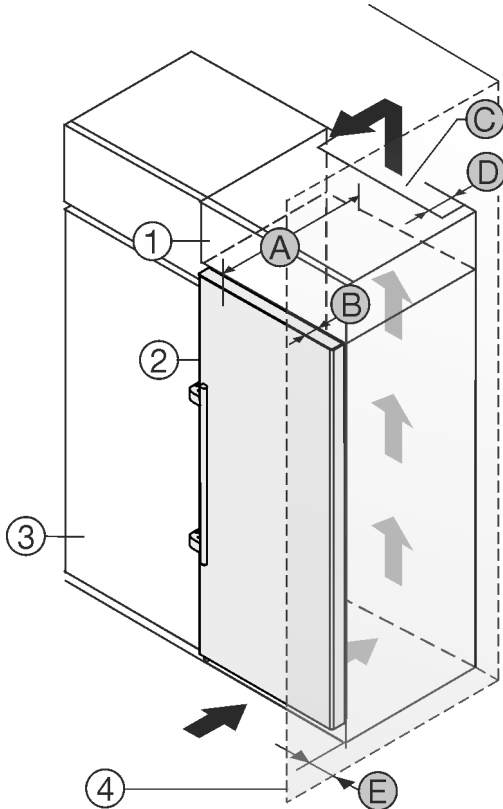

Fig. 2
You can place the appliance directly beside the kitchen cabinet Fig. 2 (3).*
There must be a ventilation shaft at the depth Fig. 2 (D) of the back of the top cupboard over the entire width of the top cupboard.*
The ventilation cross-section Fig. 2 (C) must be maintained under the ceiling.*
If the appliance is set up with the hinges next to a wall Fig. 2 (4), the distance between the appliance and the wall must be at least 57 mm. This is how far the handle protrudes when the door is open.*
In order to be able to fully open the door, the appliance must protrude by the depth of the door Fig. 2 (B) from the front of the kitchen cabinet. The appliance may protrude further depending on the depth of the kitchen cabinets Fig. 2 (3) and whether wall spacers are used.*